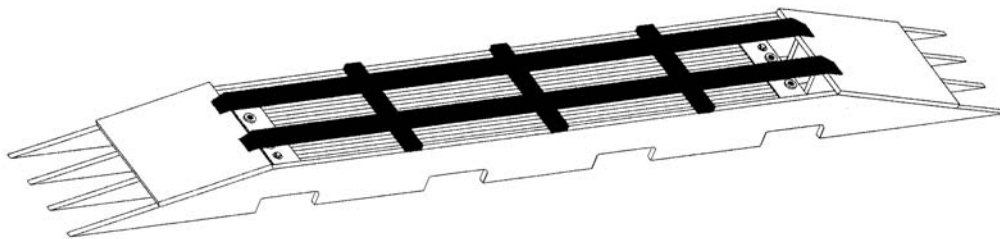

FIG. 6 Example of external guarding
- 1.5.4 In extreme cases, where logs, debris, or dragging bottom may endanger the unit, a protective guard may be mounted over the unit. Make certain the grill guard does not exceed 25% of the opening. For examples of protective guards and different installations that have been used, see Figures 6 and 7.